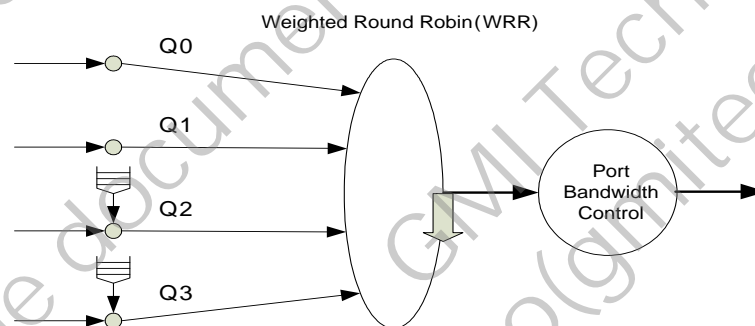

Figure 14. Packet-Scheduling Diagram
- Type I leaky bucket, which specifies the average rate of one queue (see Figure 14; only Q2 and Q3 have leaky bucket, Q0 and Q1 do not). The queue rate can be configured from 0kbps to the line rate in steps of 64kbps
In addition, the RTL8309N-VB can select one of the two sets of packet-scheduling configurations according to the packet-scheduling mode. Figure 14 shows the RTL8309N-VB packet-scheduling diagram.